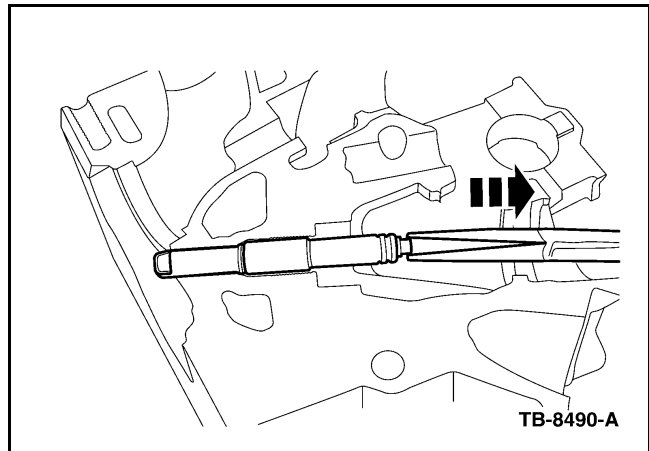

Figure 3 - Article 08-7-6
- b. Mode 2: The entire porcelain insulator and ground electrode shield remains in the cylinder head. (Figure 3)